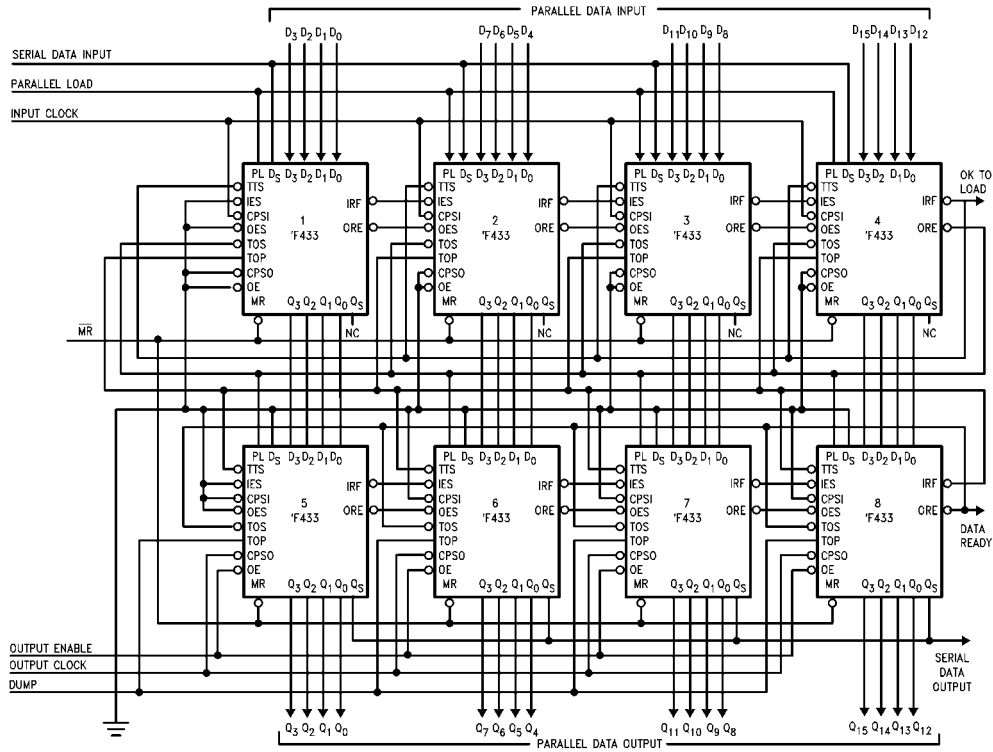
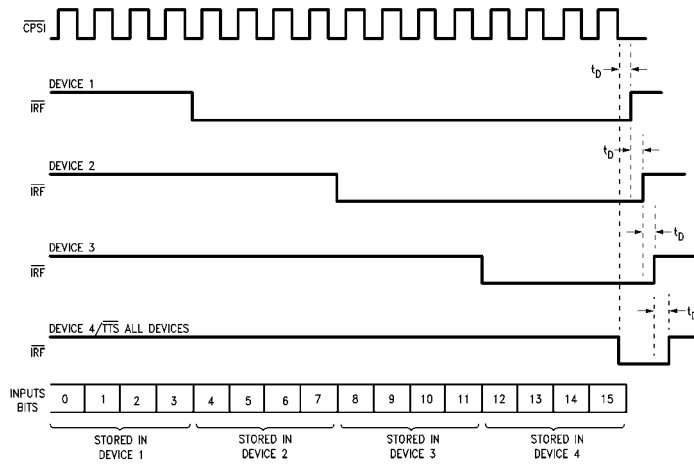
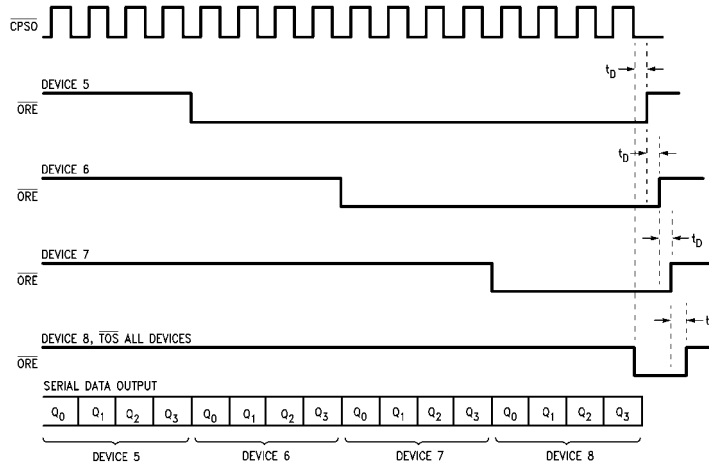
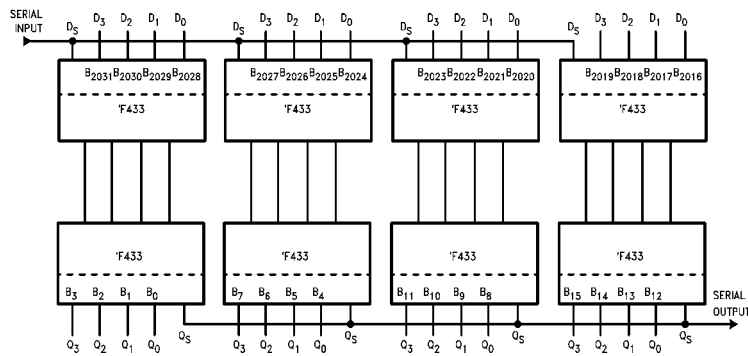

FIGURE 6. A 127 x 16 FIFO Array
FIGURE 7. Serial Data Entry for Array of Figure
FIGURE 8. Serial Data Extraction for Array of Figure
FIGURE 9. Final Position of a 2032-Bit Serial Input
**Horizontal and Vertical Expansion**—The 74F433 can be expanded in both the horizontal and vertical directions without any external components and without sacrificing any of its FIFO flexibility for serial/parallel input and output. The interconnections necessary to form a 127-word by 16-bit FIFO are shown in Figure 6. Using the same technique, any FIFO of (63m+1)-words by 4n-bits can be configured, where m is the number of devices in a column and n is the number of devices in a row. Figure 7 and Figure 8 illustrate the timing diagrams for serial data entry and extraction for
the FIFO shown in Figure 6. Figure 9 illustrates the final positions of bits in an expanded 74F433 FIFO resulting from a 2032-bit serial bit train.
In the 74F433 array of Figure 6, devices 1 and 5 are the row masters; the other devices are slaves to the master in their rows. No slave in a given row initializes its input register until it has received a LOW on its  $\overline{\text{IES}}$  input from a row master or a slave of higher priority.